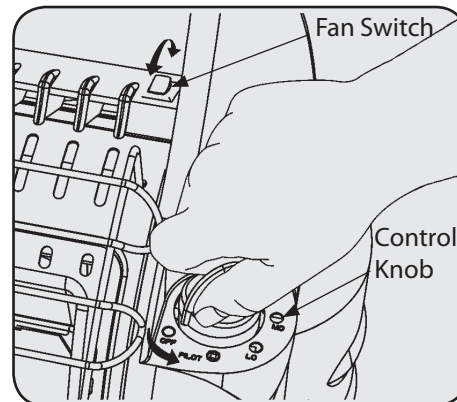

Figure 1
1. Make sure four-position Control Knob is in "OFF" position. See Figure 1.
11. For added heat circulation turn red fan switch to on. The fan switch is located just left of control knob side handle support. See Figure 1.
1. Make sure five-position Control Knob is in "OFF" position. See Figure 1.
12. For added heat circulation turn red fan switch to on. The fan switch is located just left of control knob side handle support. See Figure 1.